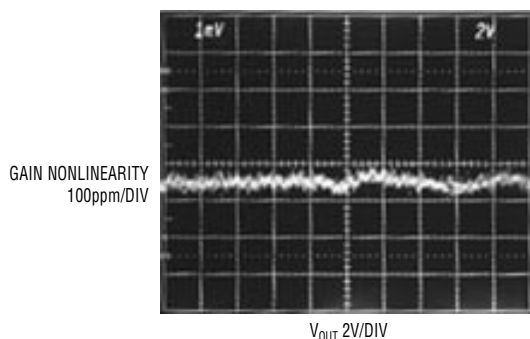
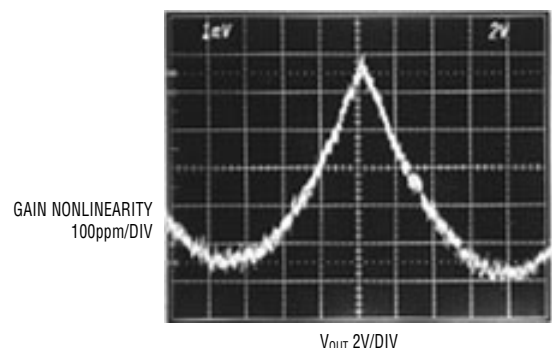

Figure 2. LT1167 gain nonlinearity: R_C = 1k; V_O = ±10V
Figure 3. Gain nonlinearity of a previous generation instrumentation amp: R_C = 1k; V_O = ±10V
0.1% for all gains up to one hundred, which is a 2.5× to 5× improvement over previous ICs. This gain error is maintained even when the output has to drive heavy loads, thanks to improvements in common centroid layout. The LT1167 maintains excellent performance even when driving heavy loads. Figure 2 is a photo of the LT1167 in a gain of one thousand driving a 1k load. Figure 3 is a previous generation IC instrumentation amplifier in the same condition. You can see why a 10k load resistor and not a 1k resistor was specified for older ICs.